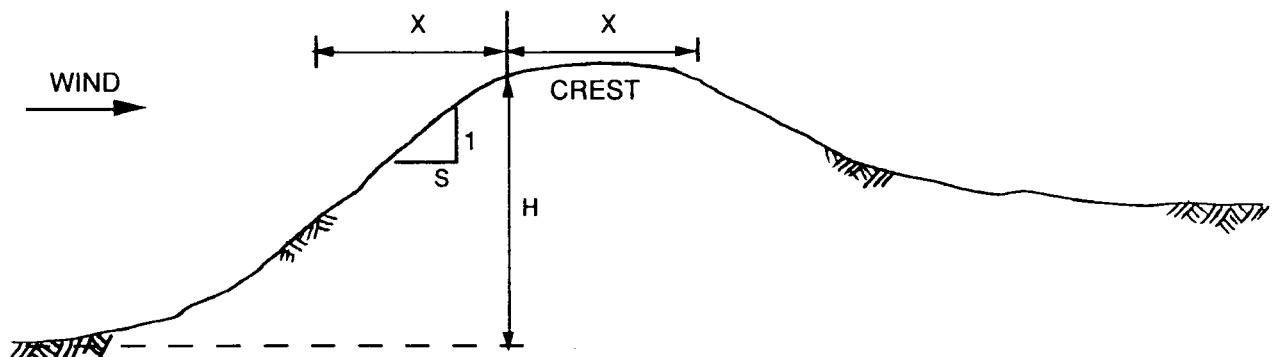

FIGURE A4.4.1
- A4.4.1 Distances upwind and downwind from crest of hills and ridges over which topographic multiplying factors must be applied are given in Figure A4.4.1 and Table A4.4.1.